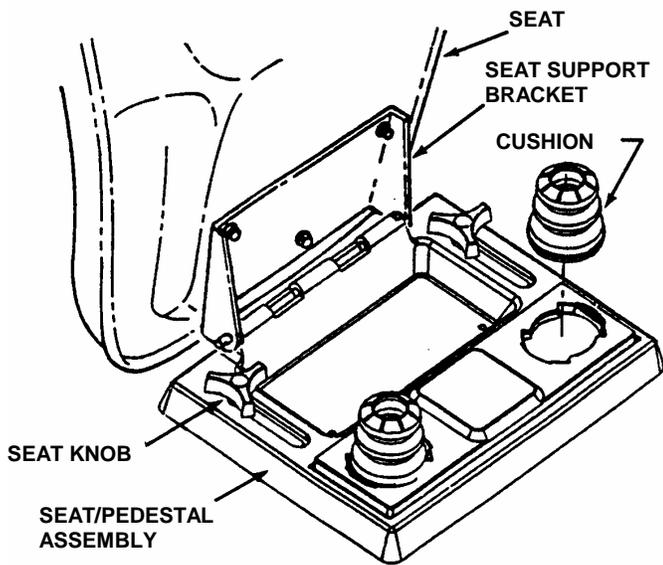

FIGURE 5
5. Check for 5/16" flat washer under head of each seat knob. Install washer, if missing, and tighten securely. See Figure 5.
6. Install seat cushions by pushing into receptacles located in seat pedestal. Seat must move freely on hinge and depress cushions. See Figure 5.